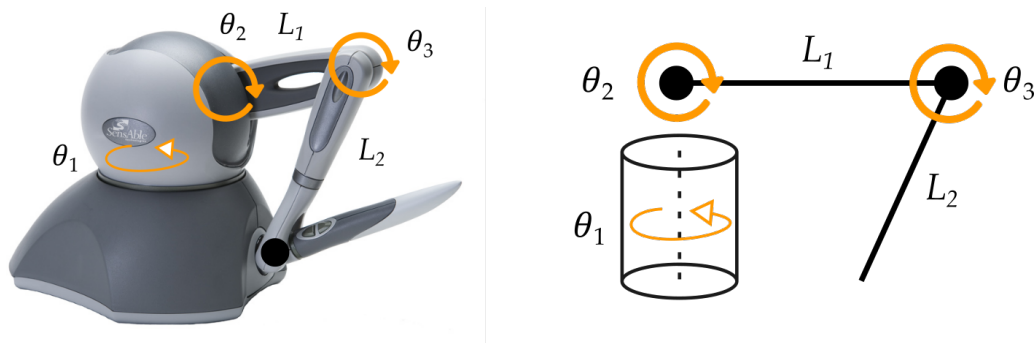

Figure 6: Joints of the Geomagic Touch. Arrows show positive direction of rotation (i.e., increasing joint position).
Starting with θ_1 try moving each joint in the *positive* direction defined by Figure 6. Does the corresponding signal on the scope also move in the positive direction? Or is it inverted? Record the relative direction (+/-) of each joint.
- Restart your model and open the scope. Each joint should now move according to positive orientation defined by Figure 6.